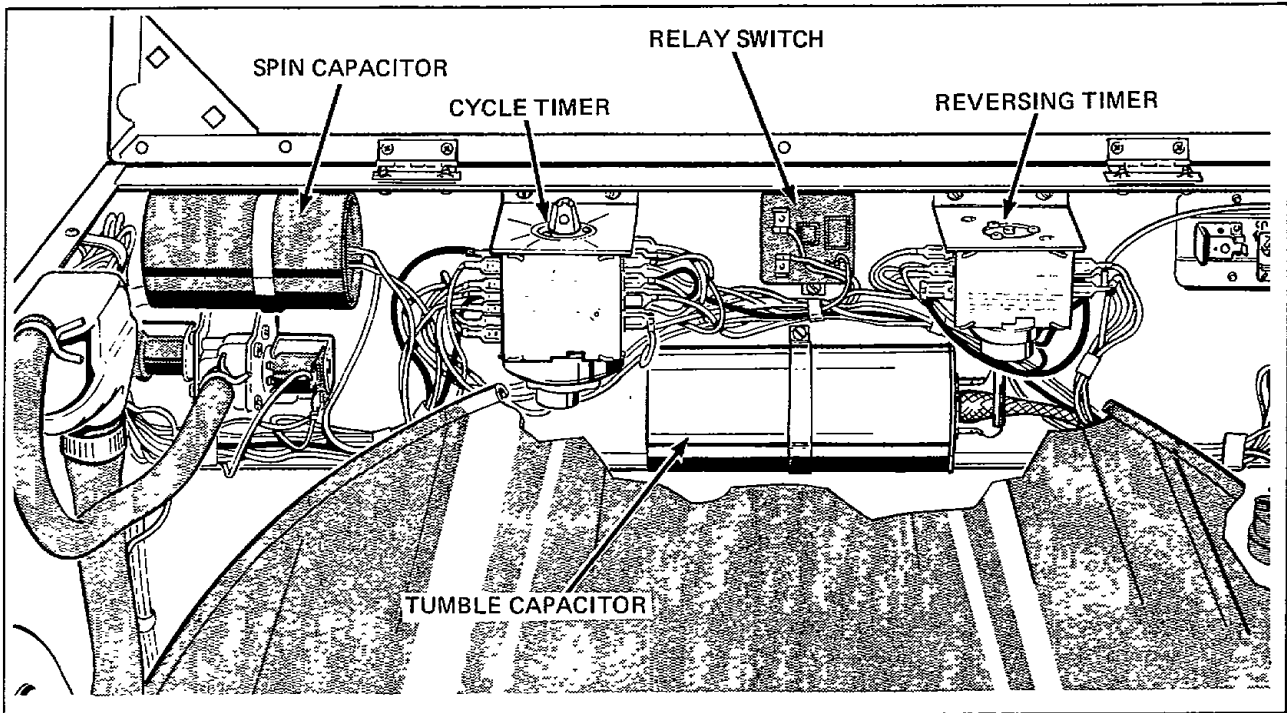

Figure 23
**23. RELAY SWITCH (Refer to Figure 23)**
**24. CYCLE OR REVERSING TIMER ASSEMBLY (Refer to Figure 23)**
**25. TUMBLE OR SPIN CAPACITOR (Refer to Figure 23)**